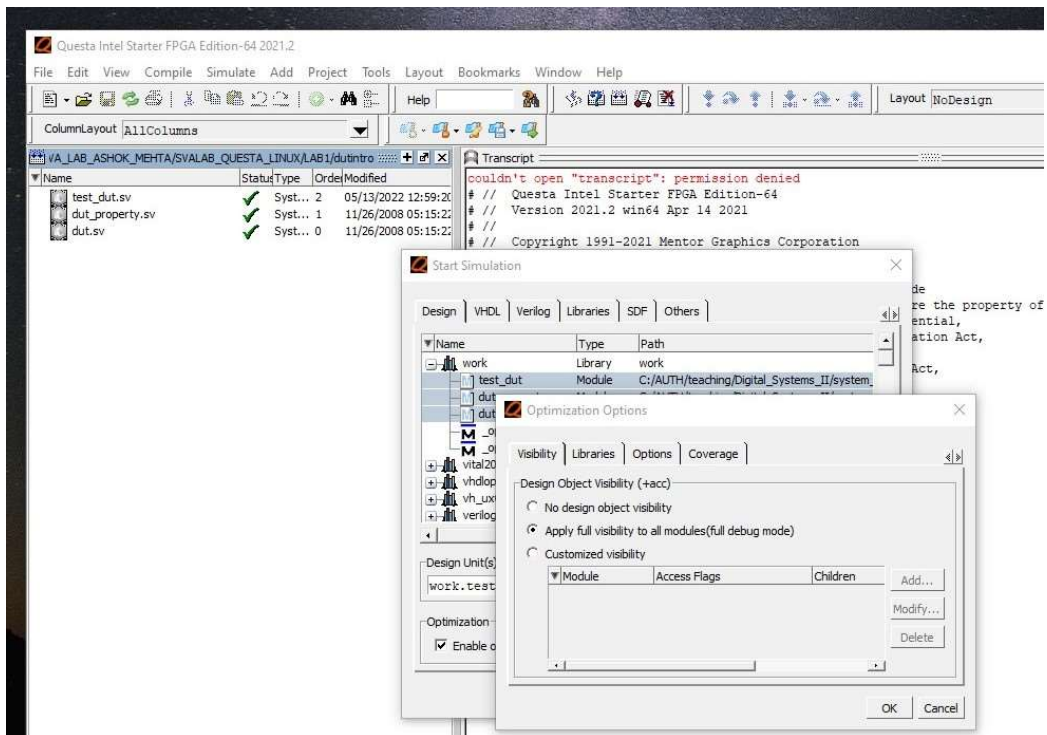
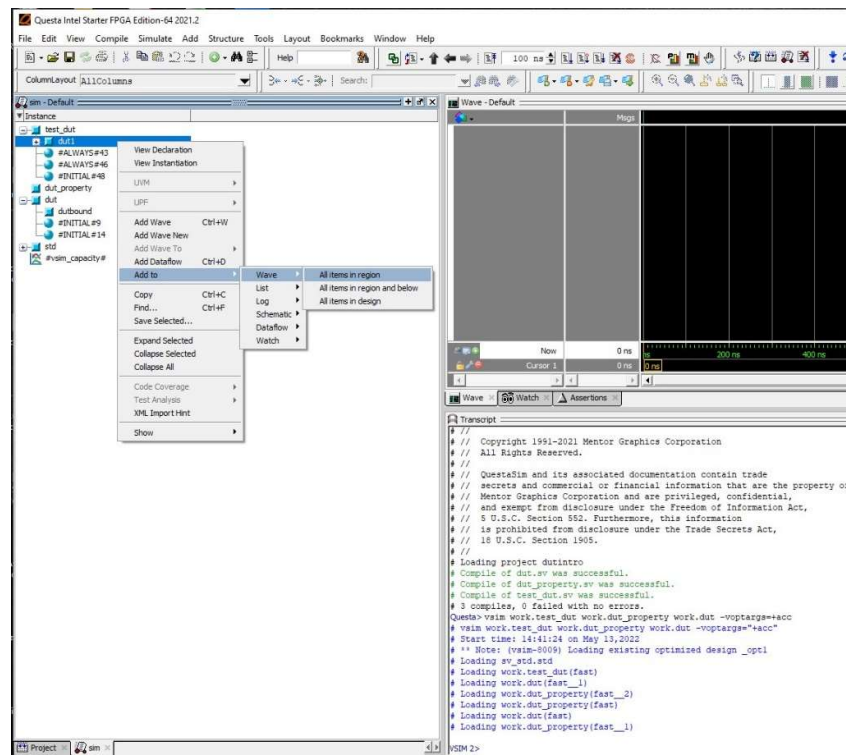

Fig. 11. Full visibility allows you to display all internals signals in the waveform window.
Fig. 12. Once the files are loaded for simulation, you can select which signals to be displayed (right click).
- Click on the optimization options and select full (or custom) visibility (Fig. 11 in Appendix) that allows to retrieve all signals in the design hierarchy to view these signals on the waveform window. Select the component dut and add its signals to waveform (Fig. 12 in Appendix).